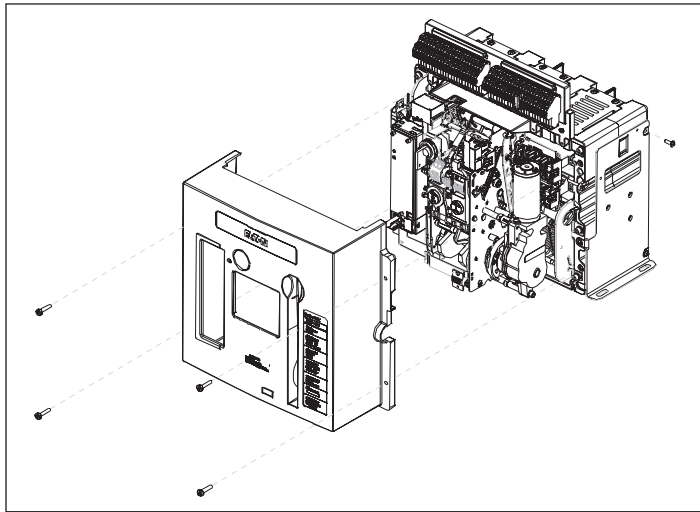
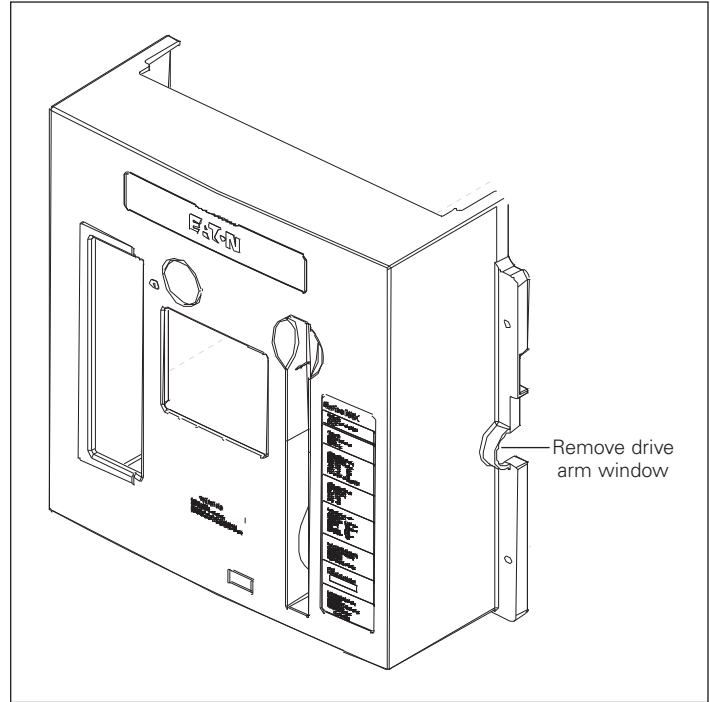
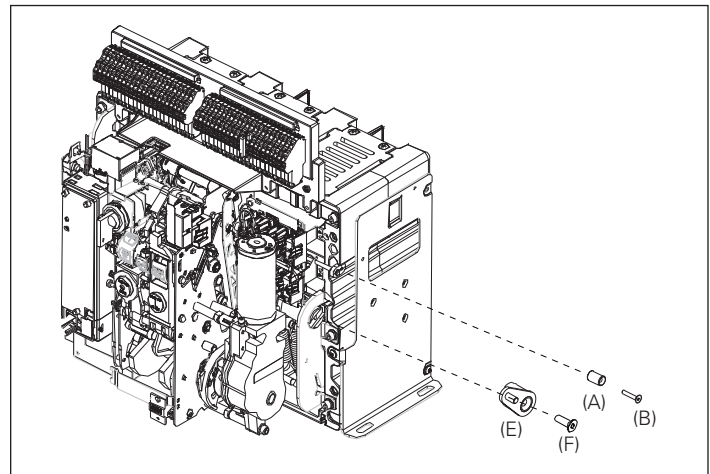

Figure 4. Details for Steps 1 and 2
Figure 5. Details for Steps 1 and 2
Figure 6. Details for Steps 3 and 4
Remove the four screws (six for 4-pole breaker) holding the cover in place. Pull down on the charging handle and remove the front cover as shown in **Figure 4**. Remove drive arm window as shown in **Figure 5**. Either use a utility knife to cut the window from the cover or use a punch and a small hammer to carefully punch out the window. Once the window is removed, use a small file to remove any burrs that remain. Make certain that all pieces and/or particles are cleaned up and removed before proceeding.
Remove and retain the upper right M5 x 12 mm screw from the fixed breaker mounting foot (ref. IL01301076E) as shown in **Figure 4**.
Install the drive arm (E) to the end of the pole shaft using an M6 x 35 mm flathead screw (F) as shown in **Figure 6**. Apply Loctite® Blue 242 to ensure that the screw cannot come loose during operation. The drive arm should be oriented as shown in **Figure 5**. Torque to 7,3–9,6 N·m (65–85 in-lb).
Install the trip pin (A) to the trip bar using an M3 x 16 mm flathead screw (B) as shown in **Figure 6**. Apply Loctite Blue 242 to ensure that the screw cannot come loose during operation. Use a wrench to hold the trip lever during installation. Torque to 0,3–0,6 N·m (3–5 in-lb).